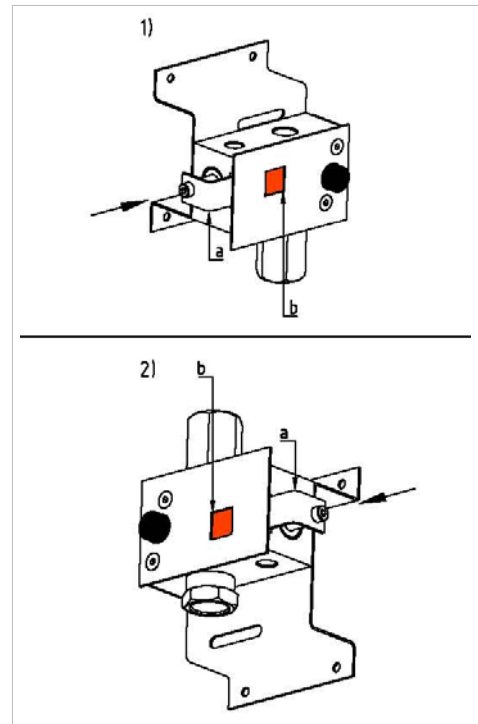

Figure 6: Position of RTC visual indicator
6. Check the position of the visual indicator. The visual indicator must be positioned at „green“; if not, press the visual indicator angle towards the valve until the visual indicator is at „green“ (refer to Figure 6)!
If the visual indicator is no longer in „green“ position, or if the slider is activated at the RTC-CLOSE valve (Figure 6), CO_2 might have been released into the system and all connected components might be under high pressure. Remove the CO_2 bottle as described under *Restarting operation/reset*.